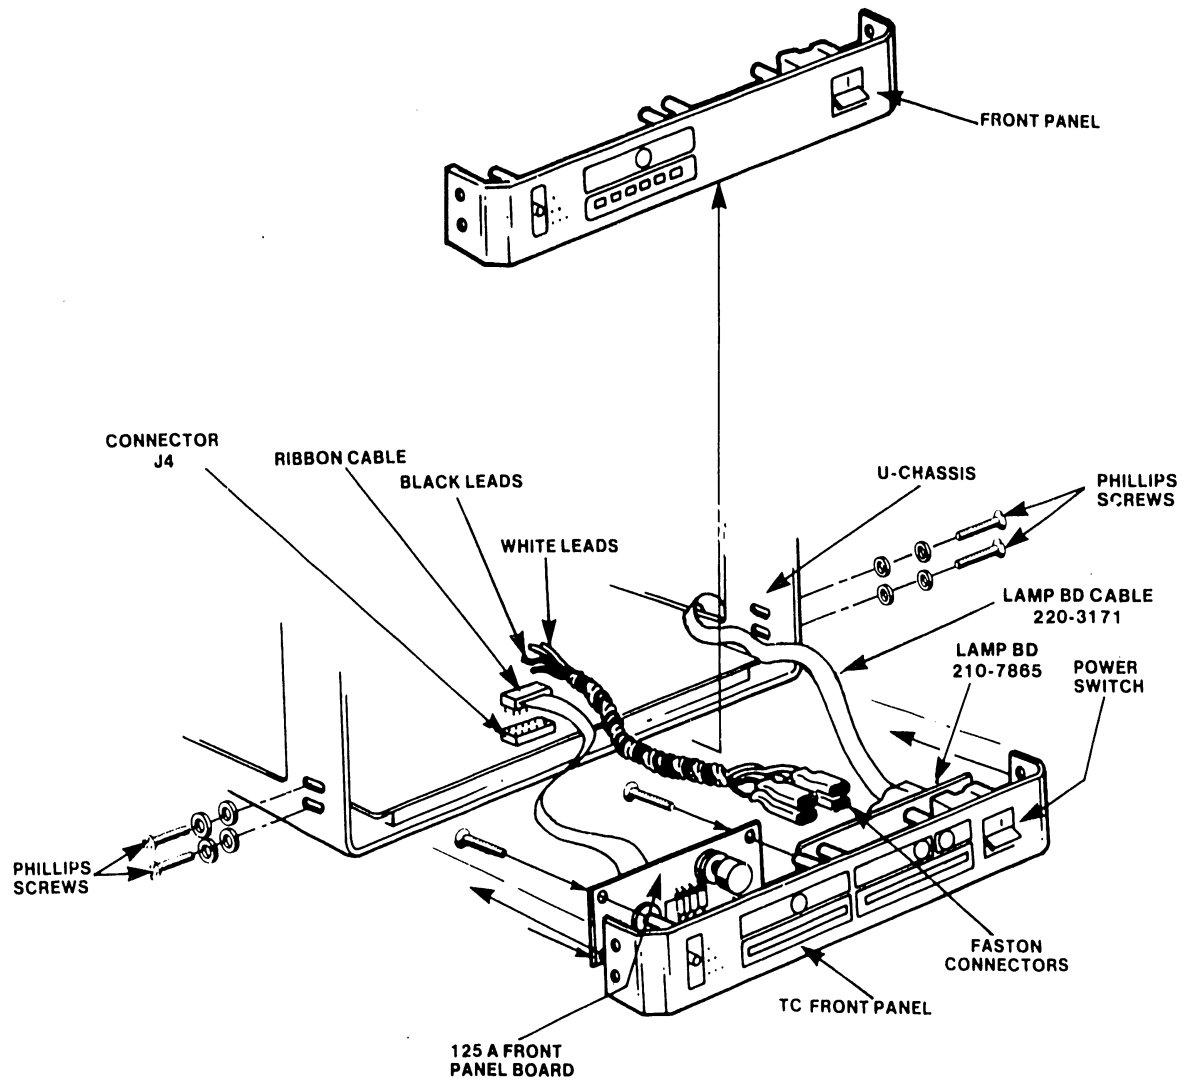

Figure 4-14 Front Panel Removal/Installation
1. Remove the four Phillips-head screws and washers, two on each side that secure the front panel to the U-chassis (Figure 4-14). Save the screws for use in installing the new front panel.
5. As shown on Figure 4-14, detach the 125A Front Panel Board (P/N 210-7651) from the front panel by removing the four Phillips-head screws that secure it to the front panel.
3. Route the edge connector end of the lamp panel cable through the slot in the side of the U-Chassis (Figure 4-14). Position the cable for connection to the TC controller.